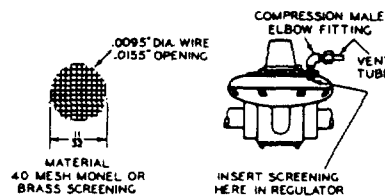

FIG 11—Flame Check
3. Connect vent tube from gas pressure regulator to union leading to vent tube tip on pilot bracket. Be sure flame check is in place as shown in Fig. 11.